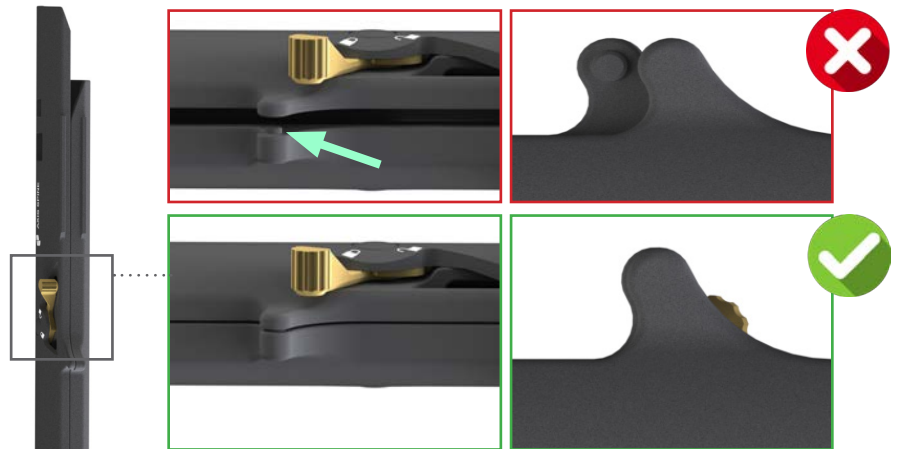

Fig. 9
- Align the two arms of the Inserter using the lug features near the lever (Fig. 9) for guidance.
- Check the Alignment Tool is correctly assembled by inspecting the lug features for alignment as in Fig. 9. There should be no space between the Inserter arms (Fig. 12) and the Alignment Tool should feel securely attached to both superior and inferior arms.